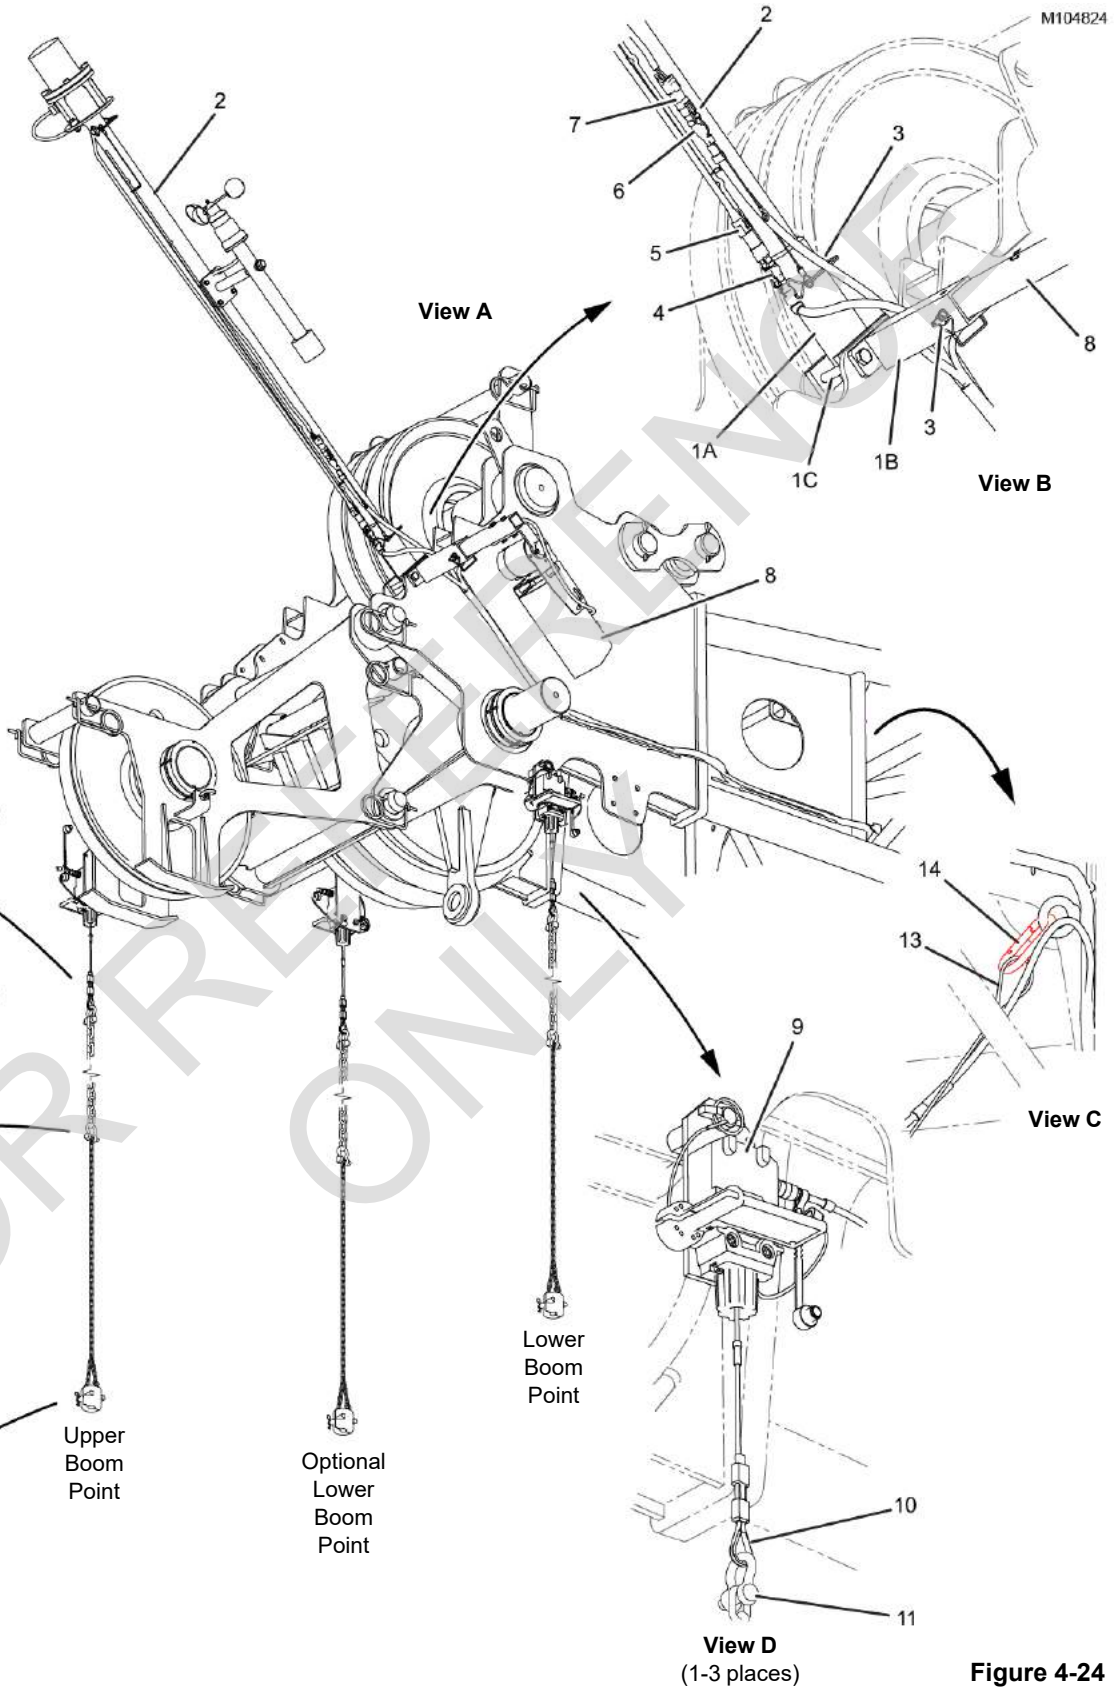

Figure 4-24
4. Unlock the cable reel (2, View C) and pay out the required length of boom extension cable (1).
5. Route the boom extension cable (1) up the boom, remove the dust cap (1A), and connect the boom extension cable to the boom top connector (3, View A).
6. Connect the strain relief on the boom extension cable (1) to the carabiner in the boom top (see View C, Figure 4-24 on page 4-38).
7. Connect the other end of the boom extension cable (1, View C) to the boom connector (4) and lock the cable reel in position with the locking lever (2A).
Legend for Figure 4-24
See Figure 4-24.
1. Remove the boom top camera (8, View A, Figure 4-24) from storage in the parts box.
2. Assemble the camera (8, View B, Figure 4-24) to the bracket (1B) and install the safety pin (3).
9. Connect the strain relief (13, View C, Figure 4-24) on the camera extension cable to the carabiner (14) in the boom top.
2. Fasten the position light and anemometer bracket (1A, View B) and, if required, the camera bracket (1B) to the jib top brackets (2) with the mounting hardware (1C).
4. Assemble the position light and anemometer assembly (3, View B) to the bracket (1A) and install the safety pin (4).
- Make sure the anemometer is hanging correctly** (see View G, Figure 4-24 on page 4-38).
8. Connect the electric cable (5, View B) from the jib top to the electric cable (6) from the position light.
9. Connect the electric cable (7, View B) from the jib top to the electric cable (8) from the anemometer.
Make sure the electric cable from the anemometer is not wrapped around the support bracket (see View F, Figure 4-24 on page 4-38).